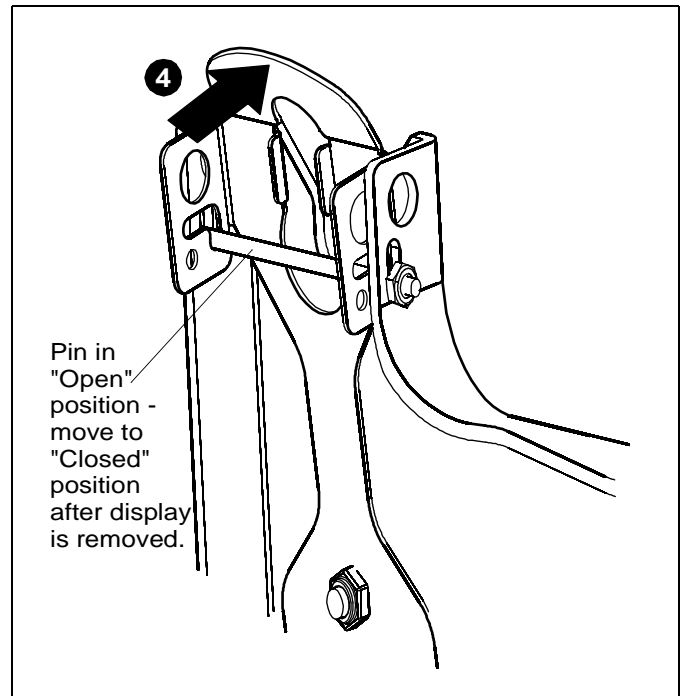

Figure 18
4. Lift up on pin and place flag back against faceplate to return it to "Closed" position. (See Figure 18)